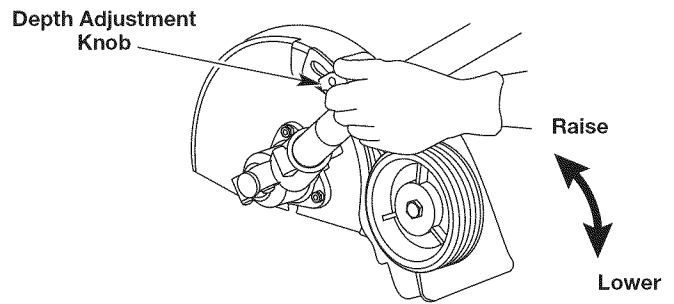

Fig. 5
3. Loosen the depth adjustment knob (Fig. 5).